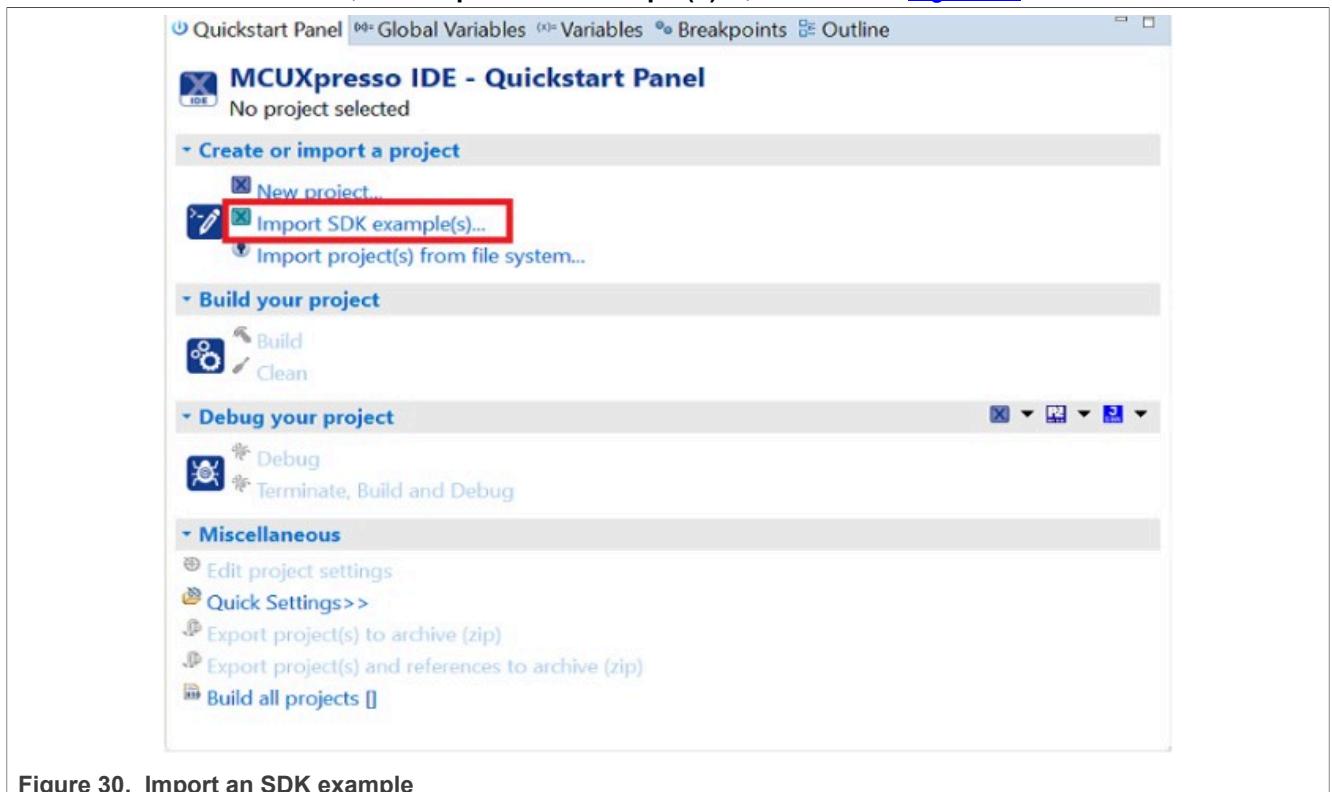

Figure 30. Import an SDK example
2. On the **Quickstart Panel**, click **Import SDK example(s)...**, as shown in Figure 30.